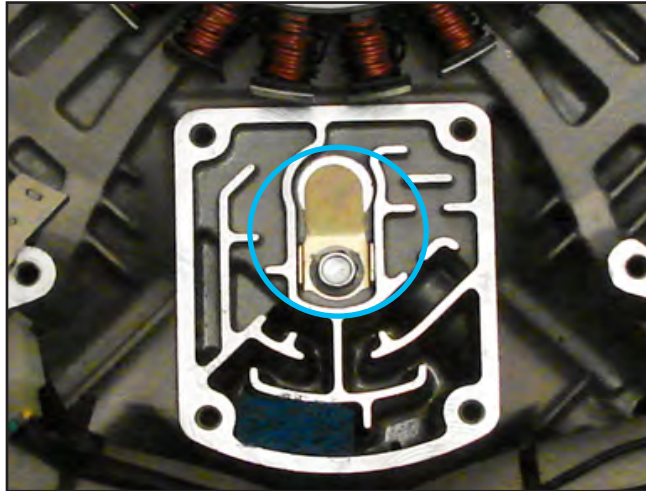

Figure 17
4. Remove the bolt retaining the breather reed assembly (Figure 17).